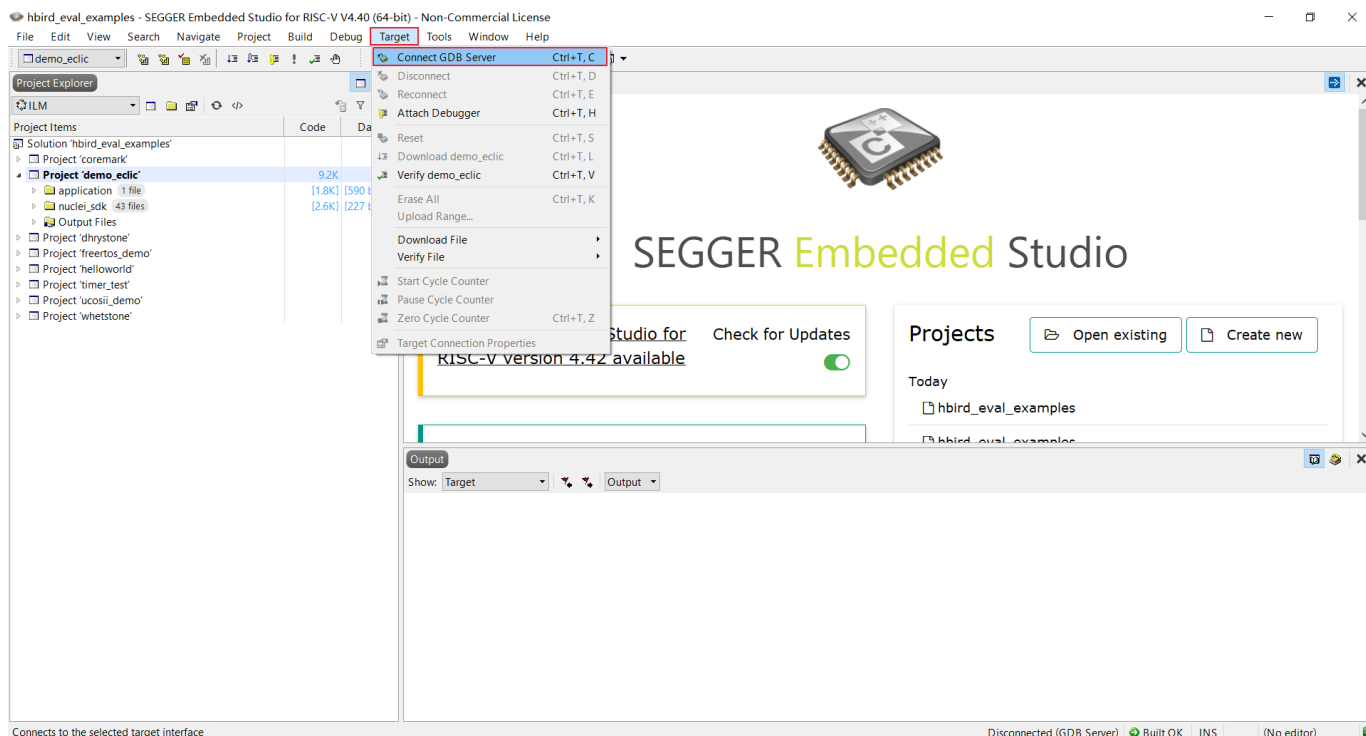

Figure 4-17 Connect GDB
- Select the “Connect GDB Server” option under “Target” option in the menu bar of SES, as shown in Figure 4-17.